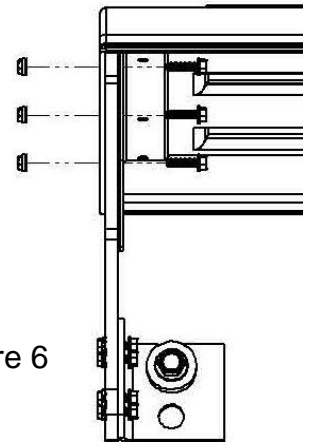

Figure 6
- E. Install center bracket as close to the end of the fender as possible (Figure 6).